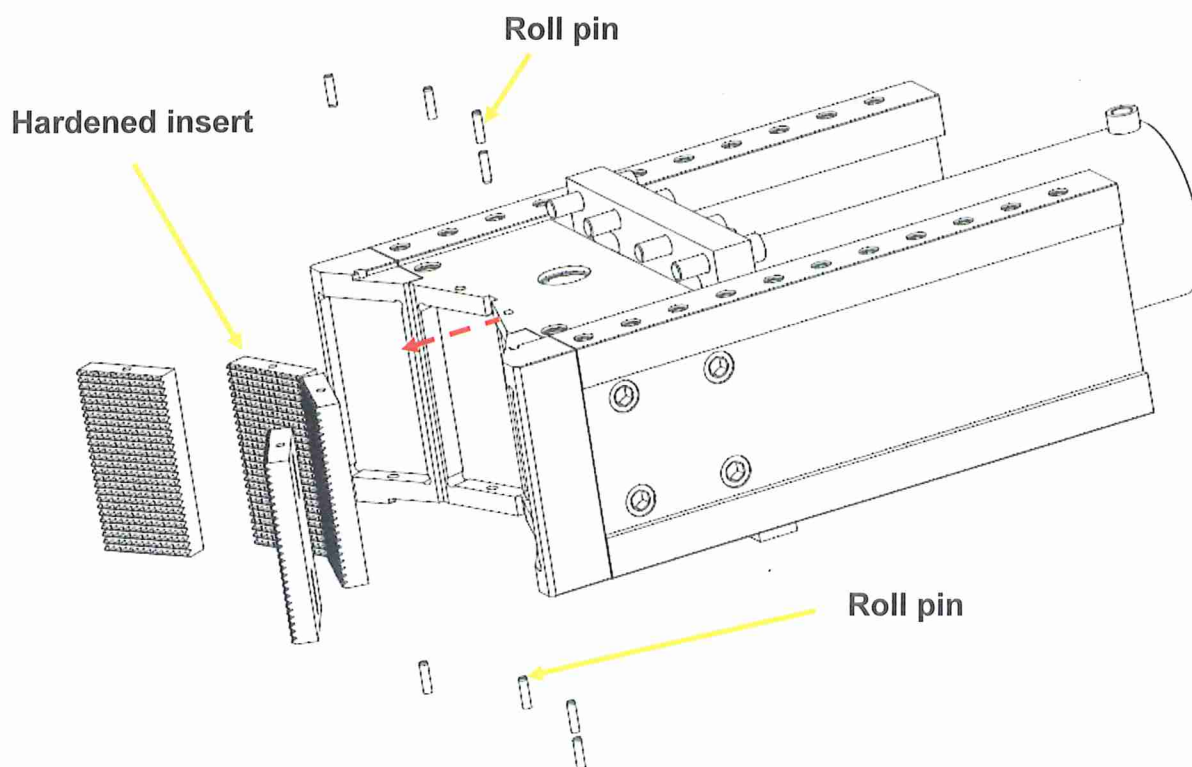

Fig. 3.5 - Replacement of hardened inserts
2. Using a suitable tool, knock the top and bottom roll pins off the insert requiring replacement (see fig. 3.5);